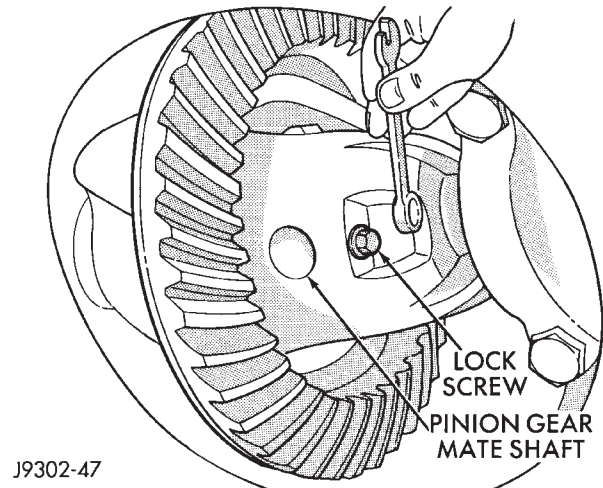

Fig. 8 Mate Shaft Lock Screw
- (1) Raise and support vehicle. Ensure that the transmission is in neutral.
- (2) Remove wheel and tire assembly.
- (3) Remove brake drum. Refer to Group 5, Brakes, for proper procedure.
- (4) Clean all foreign material from housing cover area.
- (5) Loosen housing cover bolts. Drain lubricant from the housing and axle shaft tubes. Remove housing cover.
- (6) Rotate differential case so that pinion mate gear shaft lock screw is accessible. Remove lock screw and pinion mate gear shaft from differential case (Fig. 8).